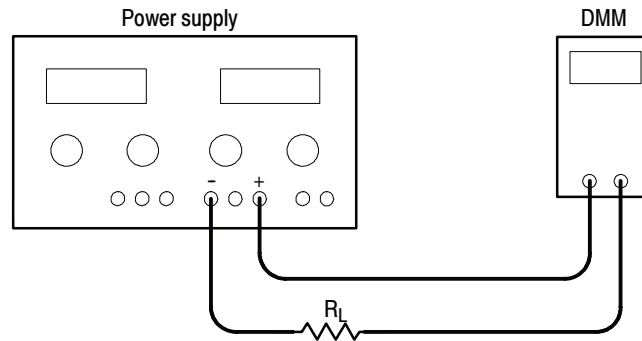

Figure 4: Constant voltage test setup
3. Connect the digital multimeter and load resistors to the + and - terminals of the power supply MASTER output as shown in Figure 4. See Table 9 for the appropriate load resistor values.
3. Connect the digital multimeter and load resistors to the + and - terminals of the SLAVE output as shown in Figure 4. See Table 9 for the appropriate load resistor values.
2. Connect the digital multimeter and load resistors to the 5V FIXED 3A terminals. Use the test setup illustrated in Figure 4. See Table 9 for the appropriate load resistor values.